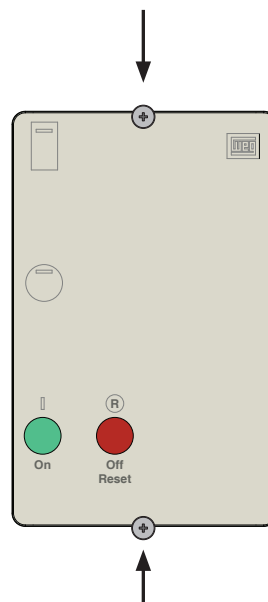
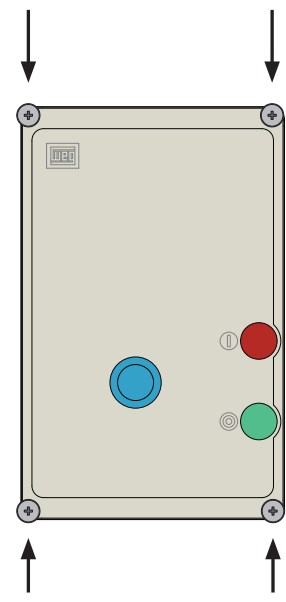

FIG. 9a
FIG. 9b
- 9** Reattach the cover with the screws set aside in Step 2 [FIG 9a] [FIG 9b].